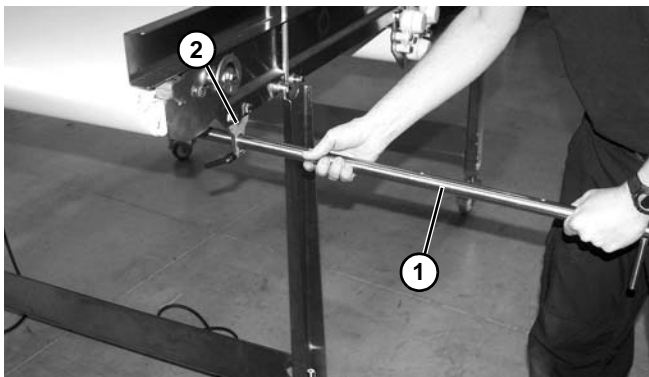

Figure 72
5. Remove scraper shaft (**Figure 72, item 1**) from both scraper adjust and mount plates (**Figure 72, item 2**).